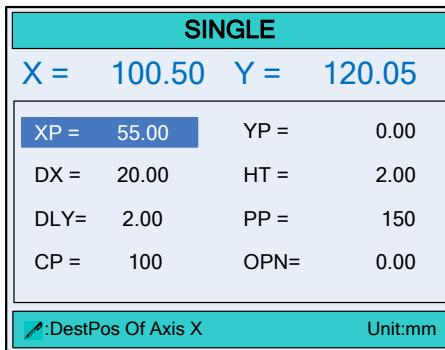

Figure 3-1 The **SINGLE** page
- Step 1** When the E200P device is electrified, wait a few seconds into the **SINGLE** page (Default page), as shown in Figure 3-1.